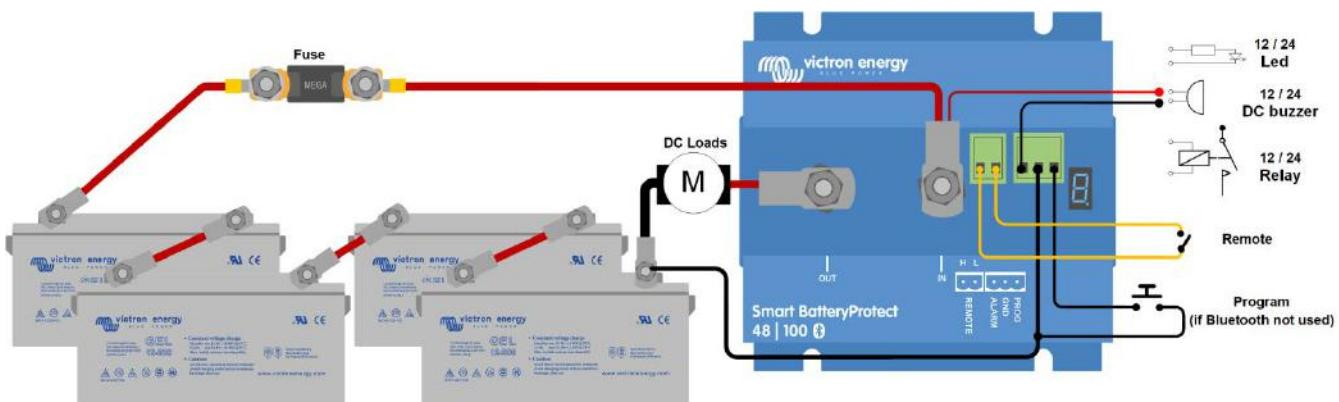

Figure 1 Connection diagram of the SBP 48|100
- A remote on-off switch can be connected between Remote H and Remote L (see figure 1). Alternatively, terminal H can be switched high (to battery positive), or terminal L can be switched low (to battery negative).
- A buzzer, LED or relay can be connected between the alarm output terminal and the battery positive (see figure 1). Maximum load on the alarm output: 50 mA (short circuit proof).
9. Eén zoomer, LED of relais kan verbonden worden tussen de alarmuitvoer en de batterij positief (zie afbeelding 1). Maximale belasting op de alarmuitgang: 50 mA (kortsluitvast)